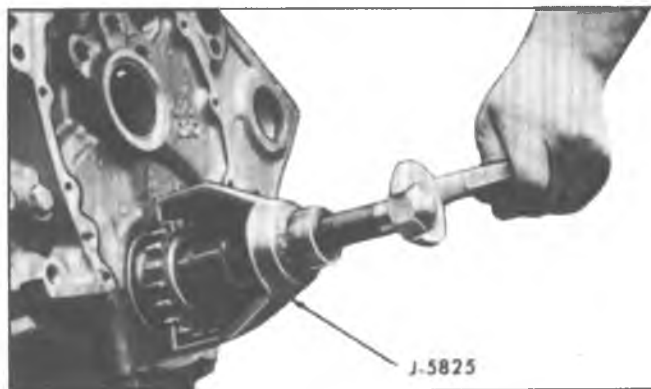
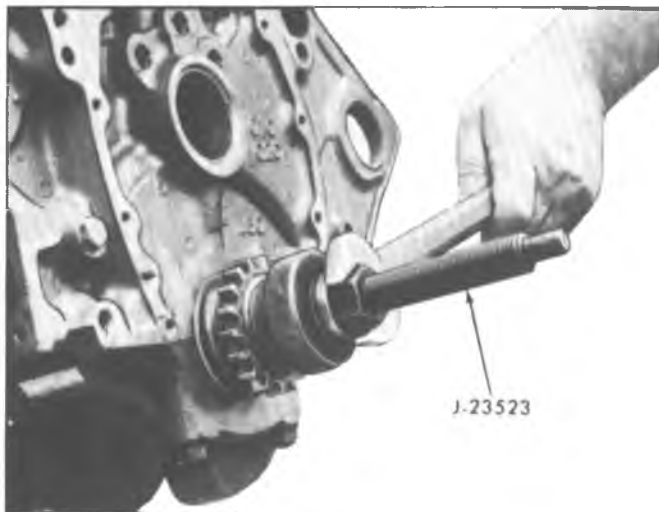
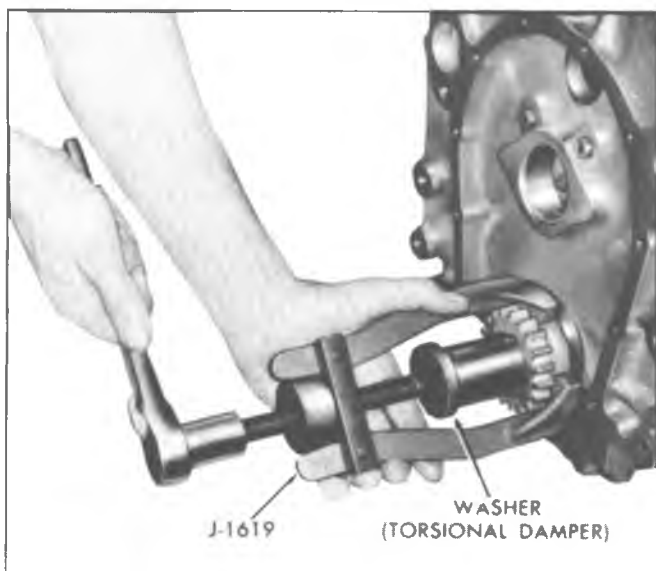

Fig. 22V—Removing Crankshaft Sprocket (Small V8)
Fig. 23V—Installing Crankshaft Sprocket
Fig. 24V—Removing Crankshaft Sprocket (Mark IV V8)
5. If crankshaft sprocket is to be replaced on Small V8 engines remove sprocket using Tool J-5825 (fig. 22V). Install new sprocket using bolt and nut from J-23523 (fig. 23V). On Mark IV V8 engines remove sprocket using Tool J-1619 (fig. 24V). Install new sprocket using bolt and nut from Tool J-23523 (fig. 23V).